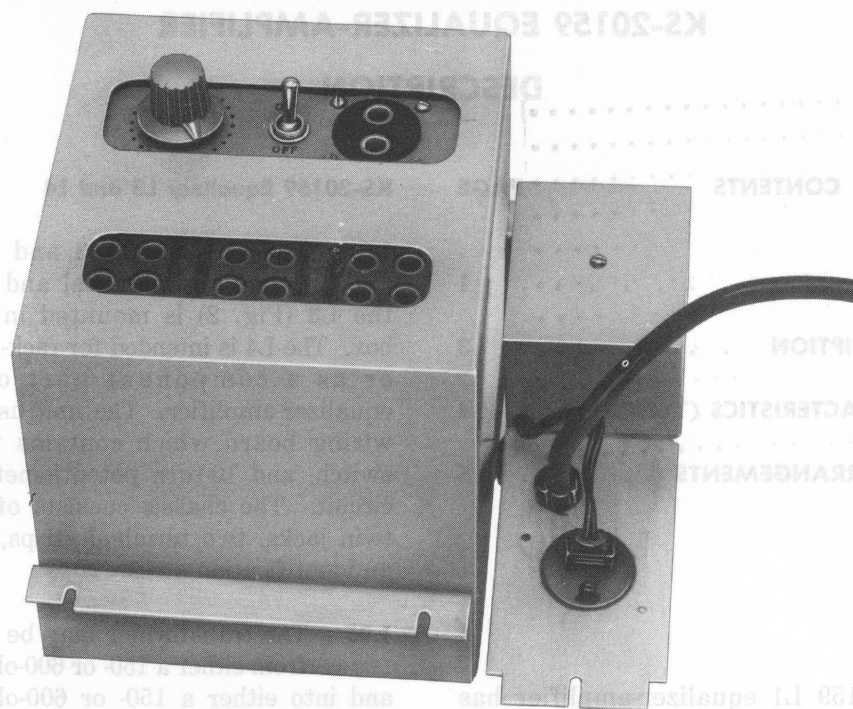

Fig. 1—KS-20159 Equalizer-Amplifier With Cover and L6 Power Supply Assembly
1.01 ♦The KS-20159 L1 equalizer-amplifier has been Manufacture Discontinued and replaced by the KS-20159 L2 equalizer-amplifier.♦ The equalizer-amplifier (Fig. 1) is used to provide equalization and amplification for 5-, 8-, and 15-kHz local program circuits utilizing nonloaded single-gauge or multigauge cables. The equipment is intended primarily as a line equalizer and amplifier for use on studio-to-transmitter loops and temporary pickup loops but may also be used in other high-quality applications. The amplifier is transistorized and operates on 48 Vdc.